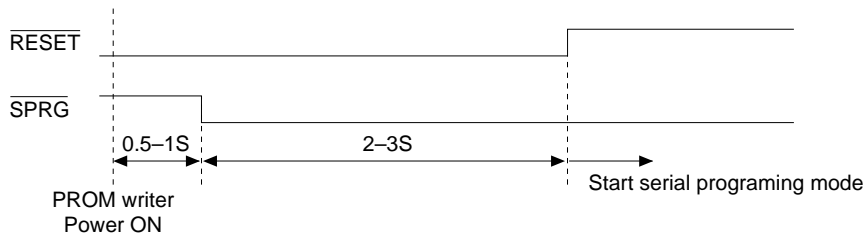

Fig. A.3.3.1 Timing chart for entering serial programming mode
- (2) Turn the IC (user target board) power (+5 V) on.
(3) Turn the PROM writer on.
(4) Controls the $\overline{\text{RESET}}$ and $\overline{\text{SPRG}}$ terminals as shown in Figure A.3.3.1.